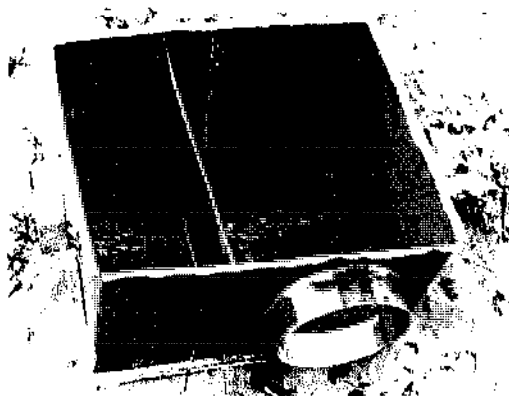

Figure 13.19—Stove with bottom, baffle and both collars installed.
13.5, Drawings A and C, leaving $1\frac{1}{4}$ inches of clearance between the top and bottom of the stove. Rivet four times to the sides. Figure 13.19 shows how the stove should look at this stage.